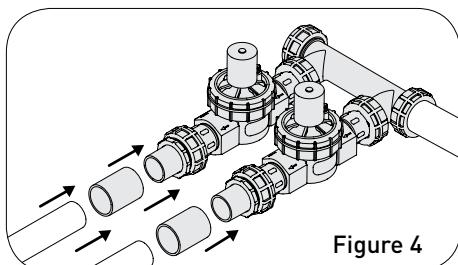

Figure 4
- For 1" PVC pipe, use Coupler (H) between Transition Adapter and pipe (Figure 4)